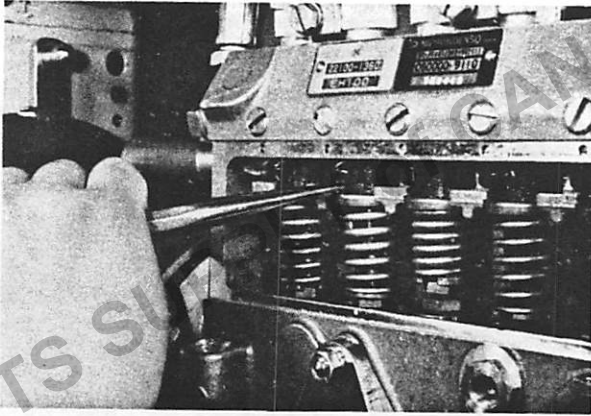

Fig. 4-30 Adjusting the injection volume
- (1) Loosen the control rod fixing device and move the rod to one side all the way and loosen the rod pinion screw of the cylinder which needs injection volume adjustment.
- (2) Insert the adjusting pin into the hole in the control sleeve and slightly move the sleeve. (Refer to Fig. 4-30).